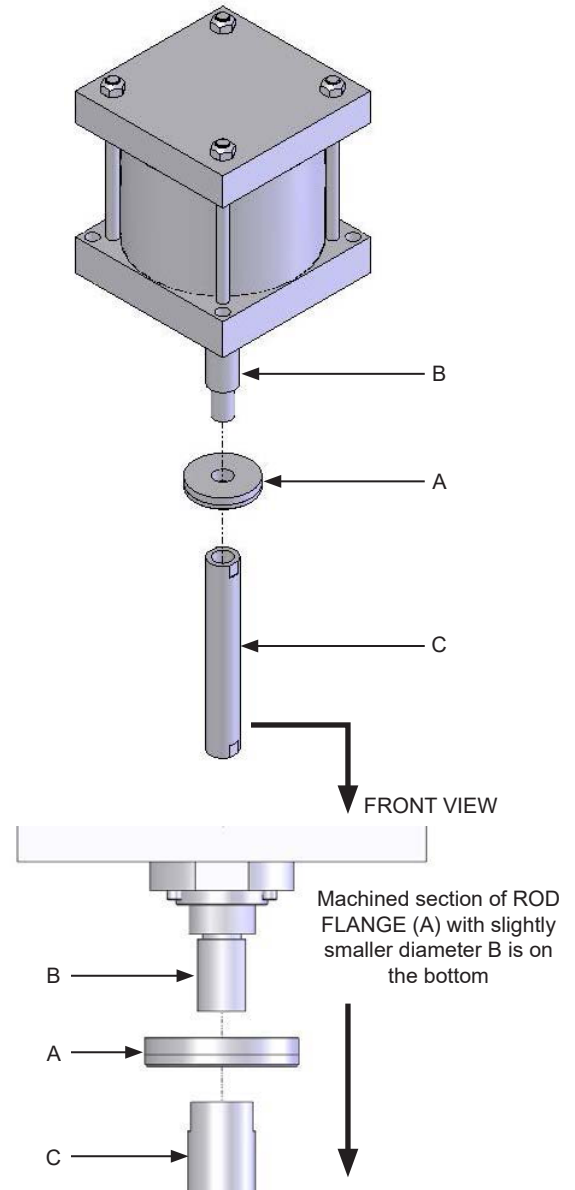

Figure 37. Initial Rod Flange Assembly
2. Thread ROD FLANGE (A) onto CYLINDER ROD (B) as far as it will go, but do not tighten. Make sure to follow orientation shown in figure 37.
3. Thread ROD EXTENSION (C) onto CYLINDER ROD (B) as far as it will go, but do not tighten.